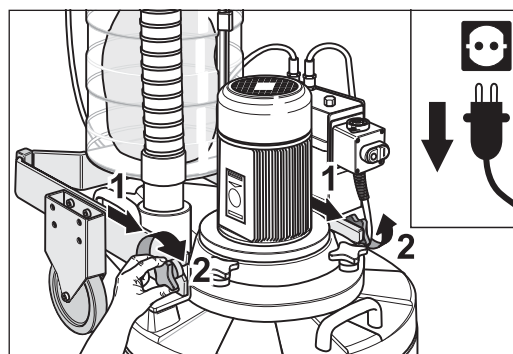

Fig. 55 Roll chassis into attachment position so that the two fasteners can be homed in (1). Tighten the two cross grip fasteners firmly (2).
- 1 Roll chassis into attachment position so that the two fasteners can be homed in (fig. 55, 1).
- 2 Tighten the two cross grip fasteners firmly (fig. 55, 2).